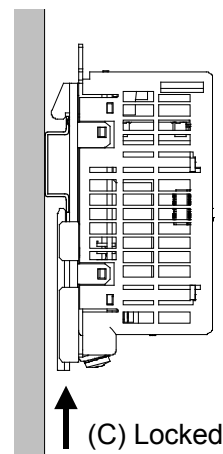

Fig. 2-3-4
3. Attach the hooks on the top of the instrument to the DIN rail and push the lower section into place on the DIN rail (B). (Fig. 2-3-4)